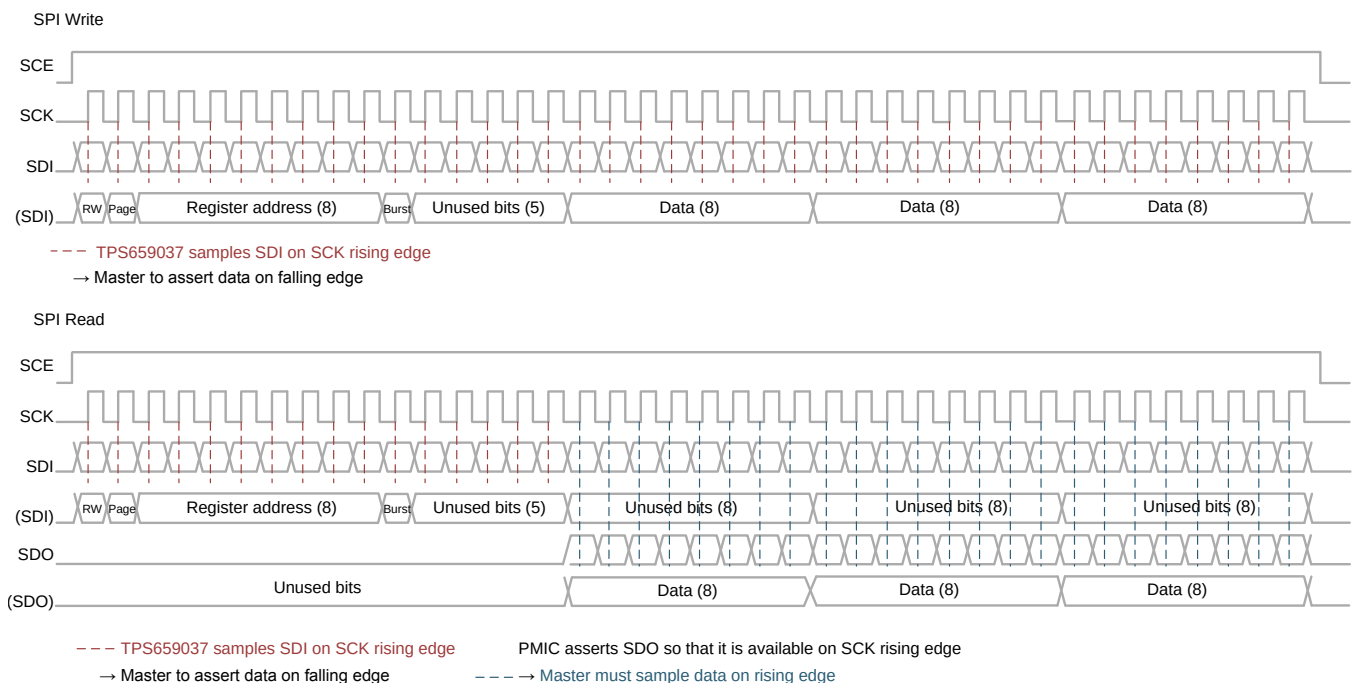

FIG 5-16. SPI Burst Read and Write Access
- This consists of fetching and storing several data at contiguous locations. The protocol is depicted in Figure 5-16.